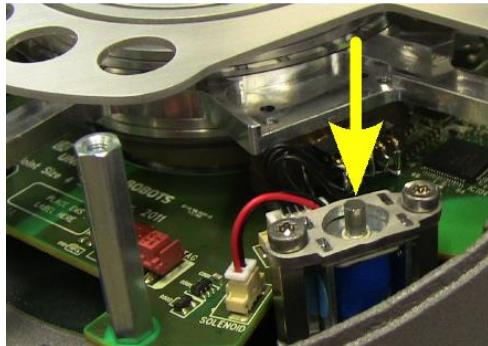

Figure 10: Brake release for an individual axis on the CB2 UR10.
- If Freedrive mode cannot be enabled, individual joints may have their brakes released manually. To manually release a joint's brakes, remove the blue plastic cover from the joint by removing the M3 screws. Press the plunger switch (see Fig. 10) to release the brakes.